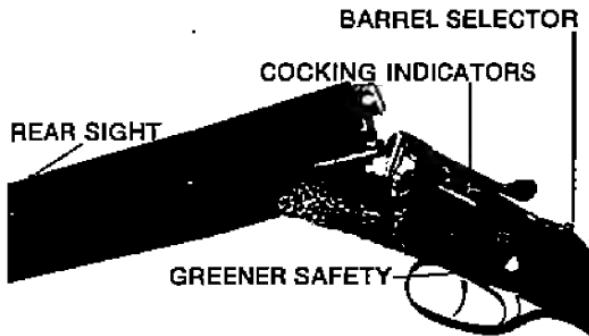

FIGURE 6-ACTION OPEN
4. See Figure 6. Turn the opening lever fully to the right and pivot the barrels into the closed action position. The action should close smoothly and the opening lever should then be returned to its central position on the top of the action.